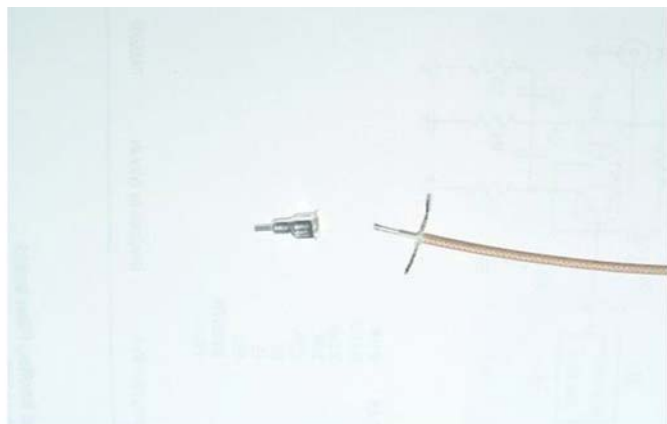

Figure 3 – Mod Location
7. Connect the black wire to the terminal marked Gnd. Install the mod board as shown in Figure 3. Dress the wires out of the way for now.